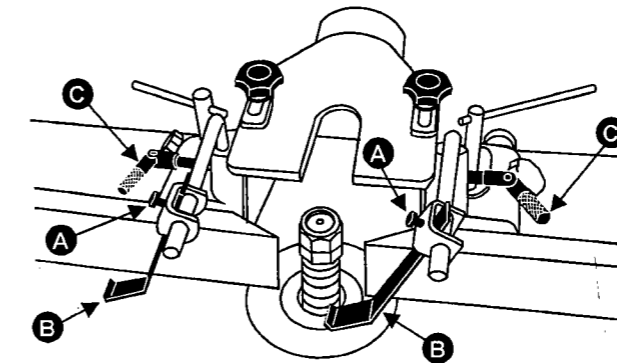

FIGURE 14
1. Loosen the hex cap bolts (A), Figure 14, turn the spring plate (B) to the desired angle, and tighten the hex cap bolts.
2. Loosen the locking lever (C), adjust the jack stay to put moderate pressure on the workpiece, and tighten the locking lever.